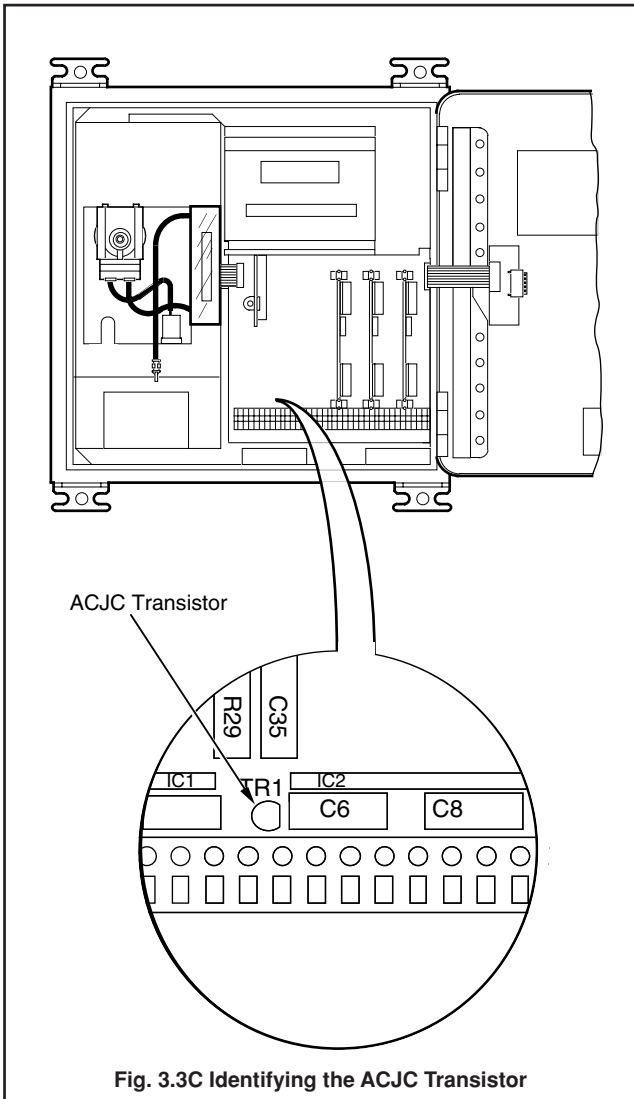

Fig. 3.3C Identifying the ACJC Transistor
- a) Measure the temperature at the ACJC transistor (TR1) with a mercury-in-glass thermometer – see Fig. 3.3C.